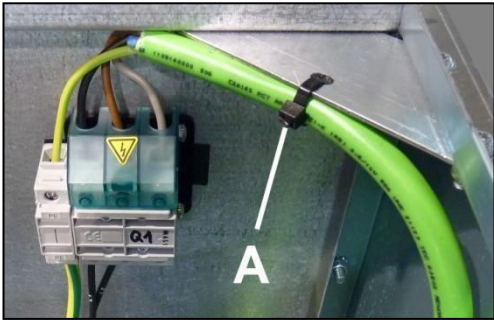

Fig. 3.8
- In models **RMS/RMG628** and **REM/RMG070**, pass the conductor through the cable tie (**A**) and secure it as shown in Fig.3.8.